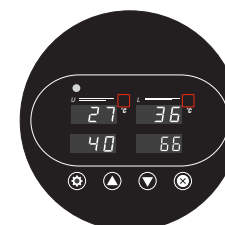

Fig. 11
1. Wait until the platens reach the desired temperature(s) and the heating icons are turned off (Fig. 11).